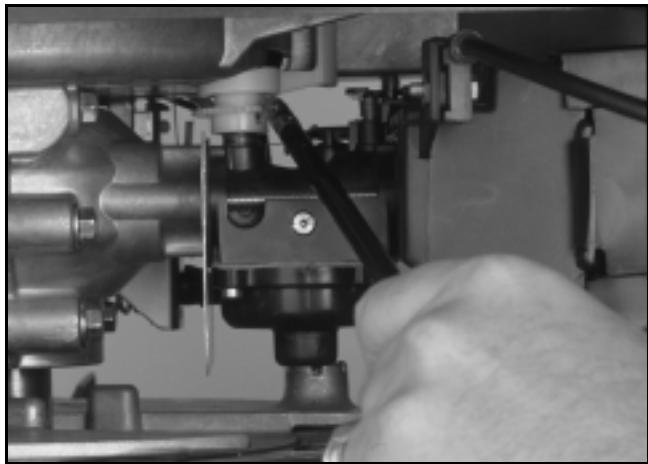

Figure 39
The shaft of the governor air vane is attached to the throttle disc of the carburetor so that air flow, created by the rotating flywheel, attempts to close the throttle. The governor spring resists this force and attempts to open the throttle. The balance between these two forces is the governed engine speed. Spring tension may be changed via an adjustable collar which produces a 50 - 75 RPM change in engine speed for each adjustment "click" it is moved. (See Figure 39.)
1. Turn the collar clockwise to increase spring tension (and engine RPMs) or counterclockwise to decrease spring tension and RPMs. (See Figure 39.) Preset the governor collar 3 or 4 clicks clockwise.